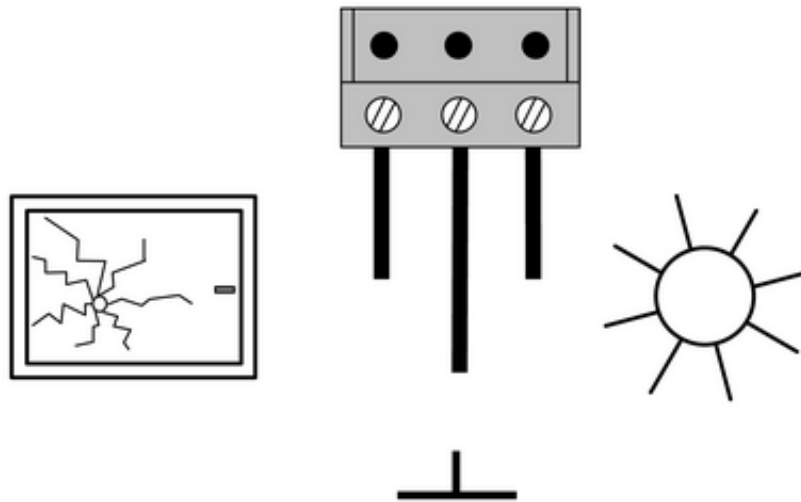

Figure 3: Connection to the terminal block
- Connect sensors as shown in connection diagram (Figure 3). The glass break sensor is connected on the left and in the middle, and the sun sensor is connected on the right and in the middle.